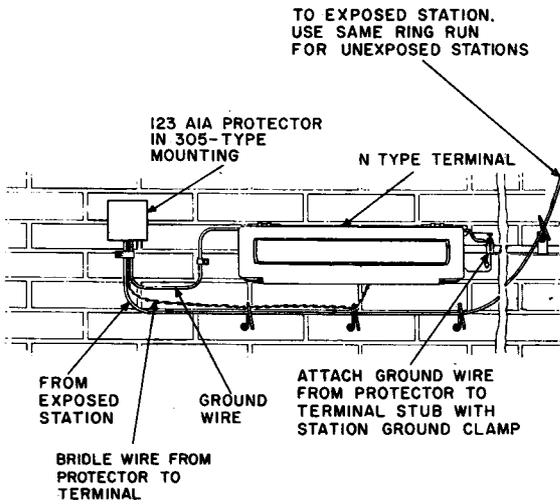

Fig. 81—N-Type Terminal, Wall Installation
**12.05** Typical wall and pole installations, using protectors for cable protection, are shown in Fig. 81 through 84.